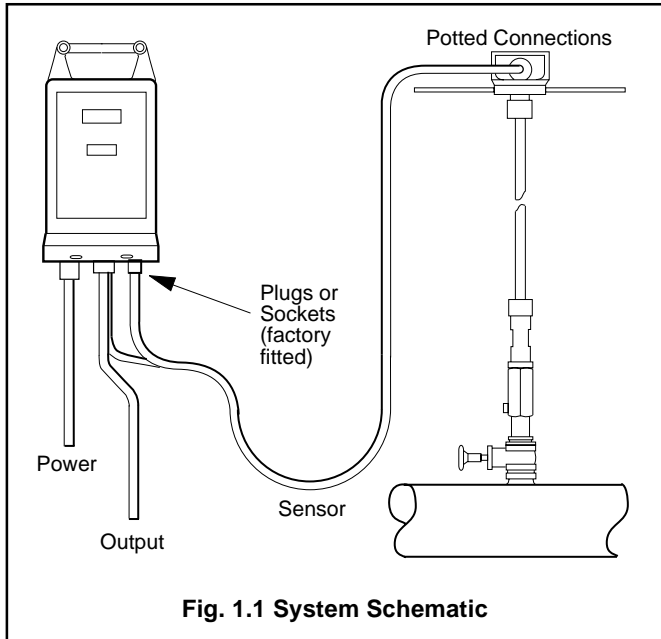

Fig. 1.1 System Schematic
1.1 System Schematic – Fig. 1.1